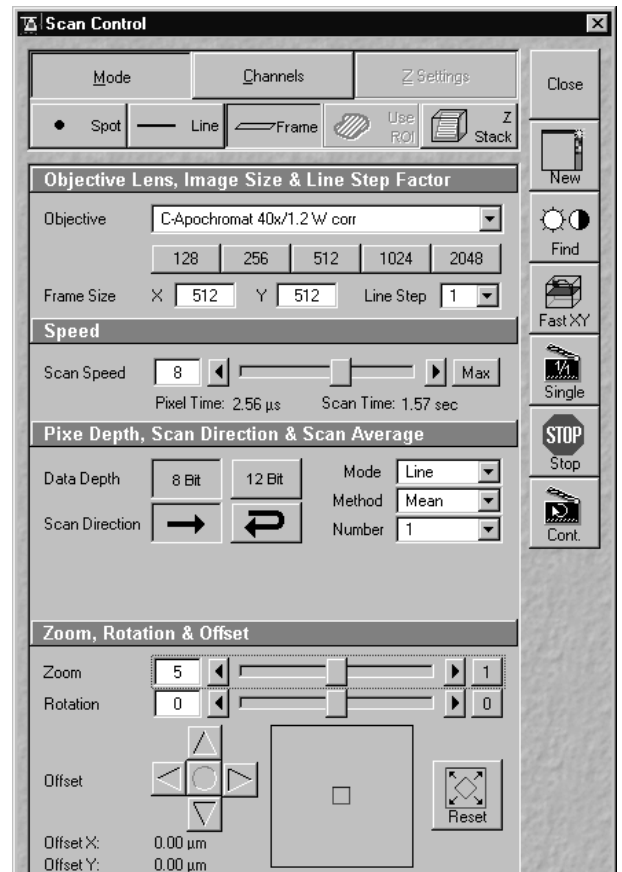

Fig. 4-90 Settings at the LSM control
- Set the following LSM parameters in the **Scan Control** (see Fig. 4-90):